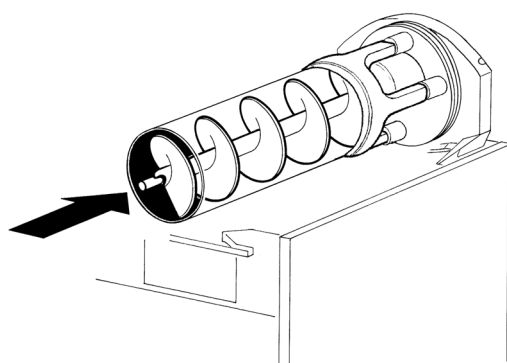

figure 14
- 5 - Insert the auger into the evaporator taking care to accompany it to the end so as to prevent it from hitting against the rear wall (see figure 14).